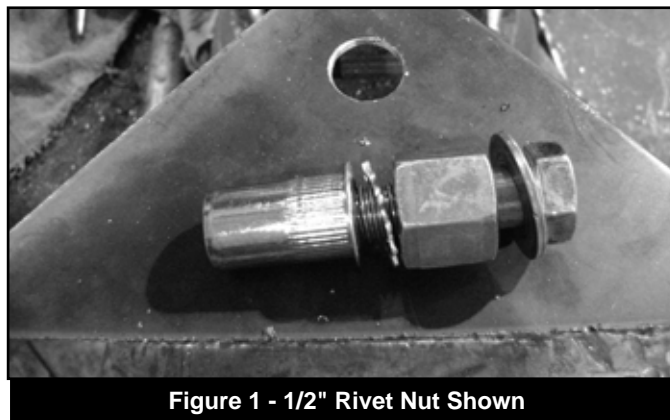

Figure 1 - 1/2" Rivet Nut Shown
3. For a 3/8" rivet nut, place the provided 3/8" SAE flat washer on the 3/8" x 1-1/2" bolt, followed by 7/16" hex nut and then a 3/8" serrated washer. Figure 1 Thread this tool assembly into the rivet nut.
4. For a 1/2" rivet nut, place the provided 1/2" SAE washer on a 1/2" x 2" bolt followed by a 9/16" high nut and 1/2" serrated edge lock washer. Thread this tool assembly into the rivet nut as shown. Figure 1